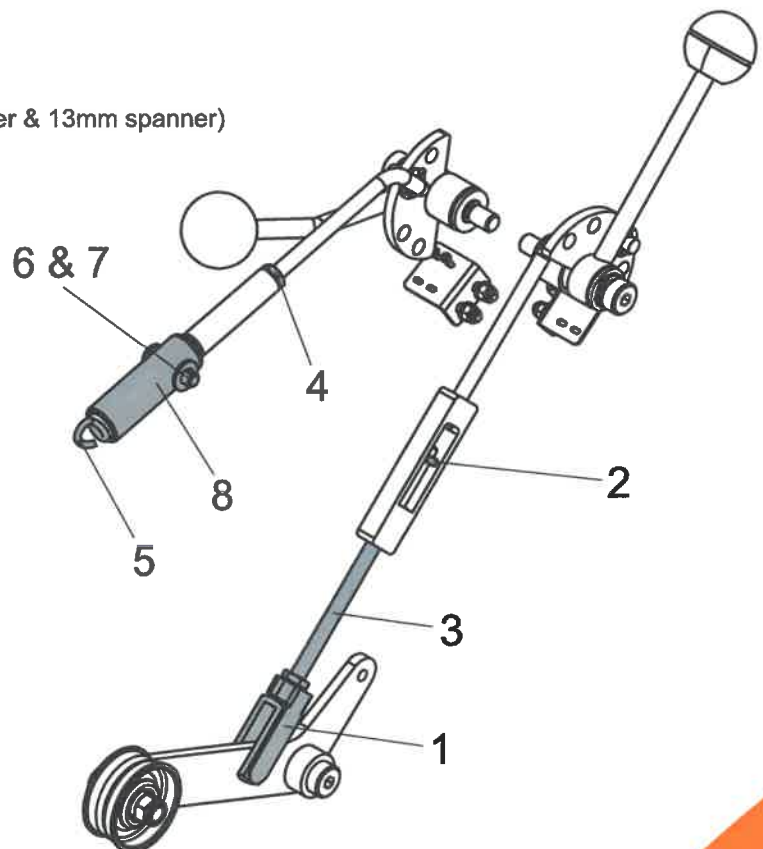

Figure 6
DRIVE LEVER (ref. fig 4 and fig 6)
- Remove clevis pin (item 1 fig 6)
- Rotate clevis rod assy (item 3 fig 6).
This will adjust M8 nut (item 2 fig 6)
TINE DRIVE LEVER (ref. fig 4 and fig 6)
- Remove split pin and clevis pin (item 6 and 7 fig 6)
- Slacken lock nut (13mm spanner) (item 4)
- Rotate spring cup (item 8 fig 6) to adjust the tension.